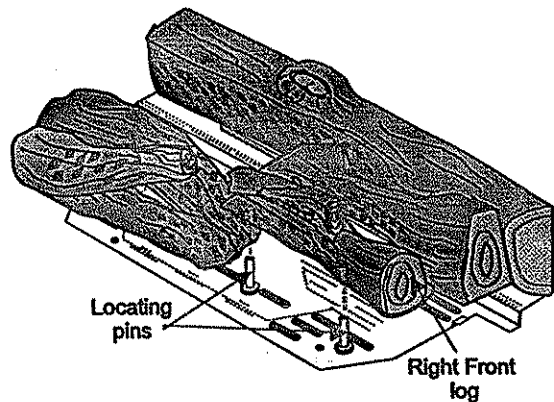

Figure 3
- 4) Place the right front log, carefully sliding it down onto the right pins of the front burner. See figure 3.
- 4) The latches should already be at the proper setting. If they are too hard or too easy to close, you may want to adjust them by loosening the locking nut and turning the latch catch. See figure 3.
- 6) Test the seal around the door by placing a piece of paper between the unit and the door, close the door and try to pull the paper out. If it slips out easily, then the door is not properly sealed. Loosen the locking nut on the adjustable catch then tighten or loosen the latch. See figure 3.